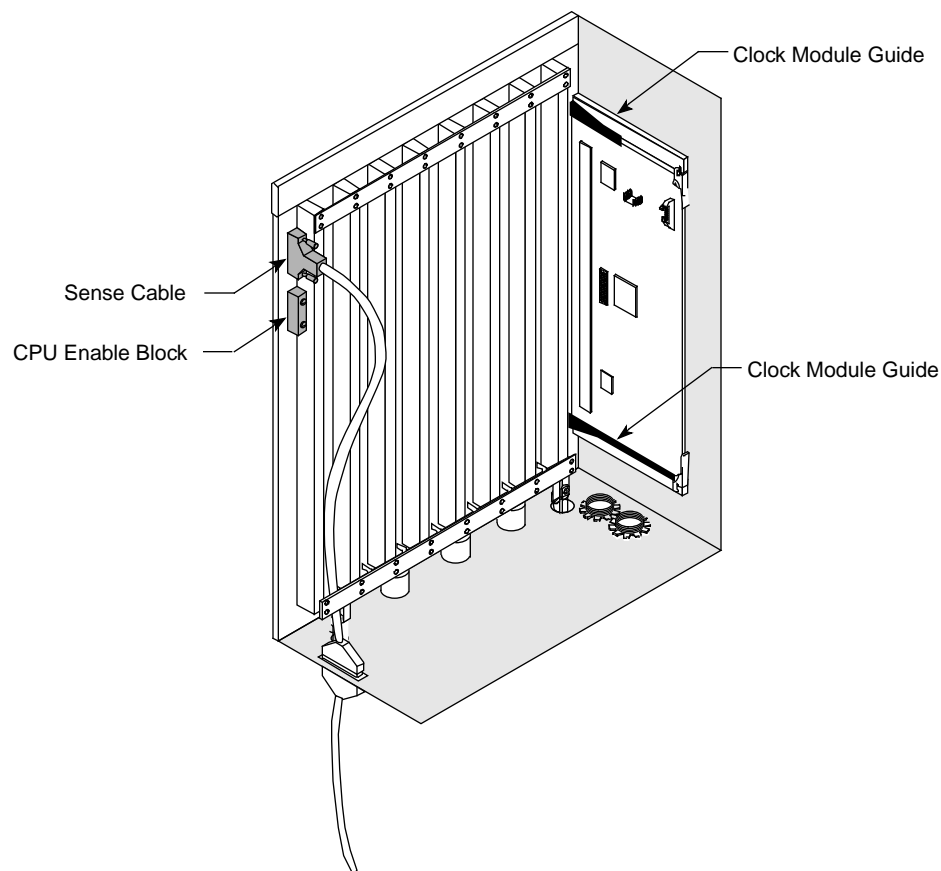

Figure 1. CPU Enable Block and Sense Cable
2. Disconnect and remove the entire sense cable assembly. There is an external extension to this assembly located below the chassis. Refer to Figure 1. Remove the two jackscrews and nut plate retaining sense cable to CPU chassis using a 3/16-in. socket.
- 3. Remove the clock module guides from the 2 X 2 backplane and retain them for installation on the 4 X 4 backplane. Refer to Figure 1. Take note of the screw length and location as you remove the screws.